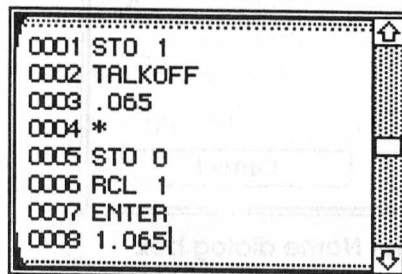

Figure 8-4 The Paper tape with a Script displayed
- ❑ **Edit** button sets the selected script as the current script, closes the PRGM dialog box, and displays the script in the Paper tape (as in Figure 8-4). Turn PRGM mode *OFF* to finish the editing session. If you deleted the contents of the script while editing, the script will be left unchanged after turning PRGM mode *OFF*. The **Edit** button will be grayed out if the calculator does not have a Paper tape, or there is no transient script selected (see *View* for more).